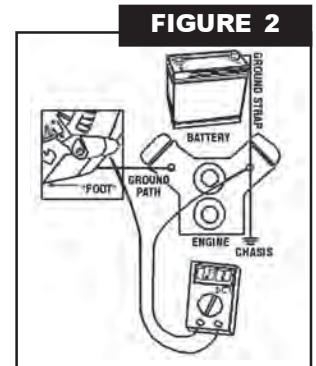

FIGURE 2
- ◆ Apply a moderate load to the charging system (i.e., high beam headlights and A/C for example) and bring the engine to 1,500rpm. Using a digital voltmeter measure the DC voltage from the a bare metal point on the case of the alternator to the negative battery terminal. Readings higher than 0.10VDC indicate a poor ground connection. Check the ground path including any paint or anodizing on the brackets, the engine ground strap, and the ground cable from the frame to the battery. (See figure 2).